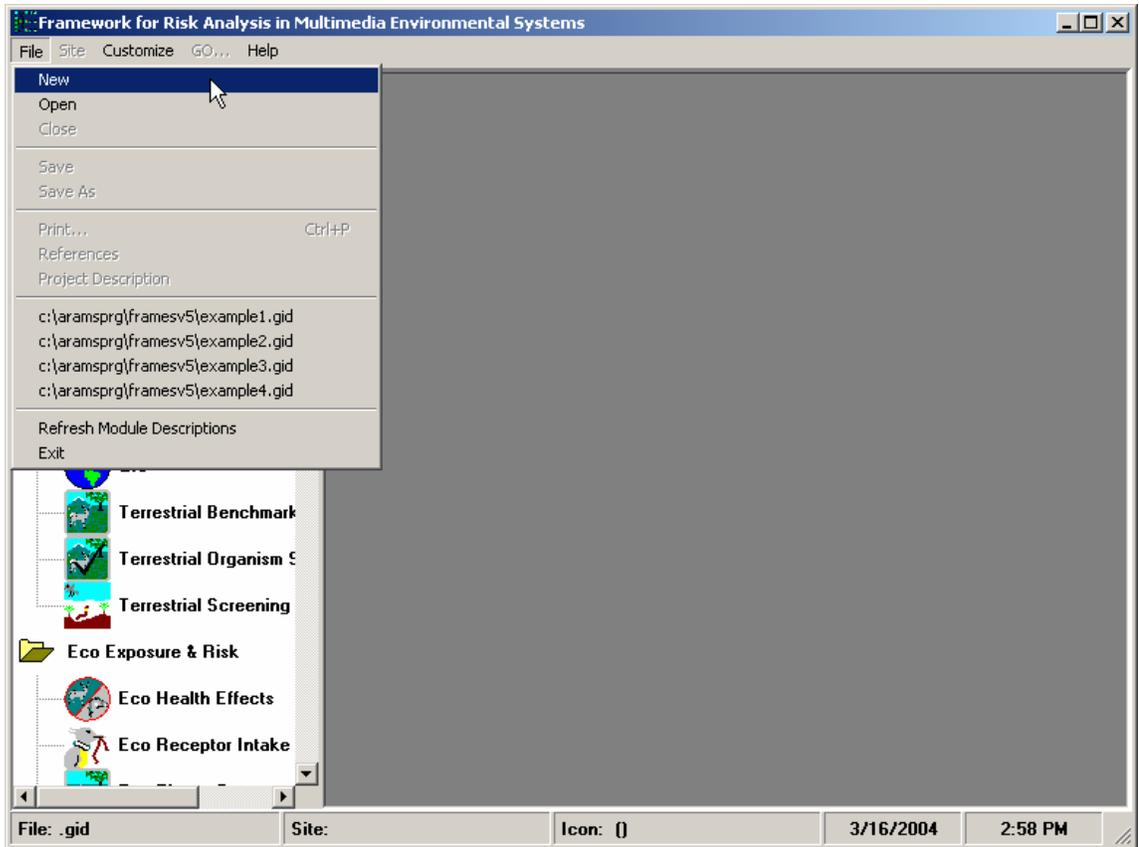
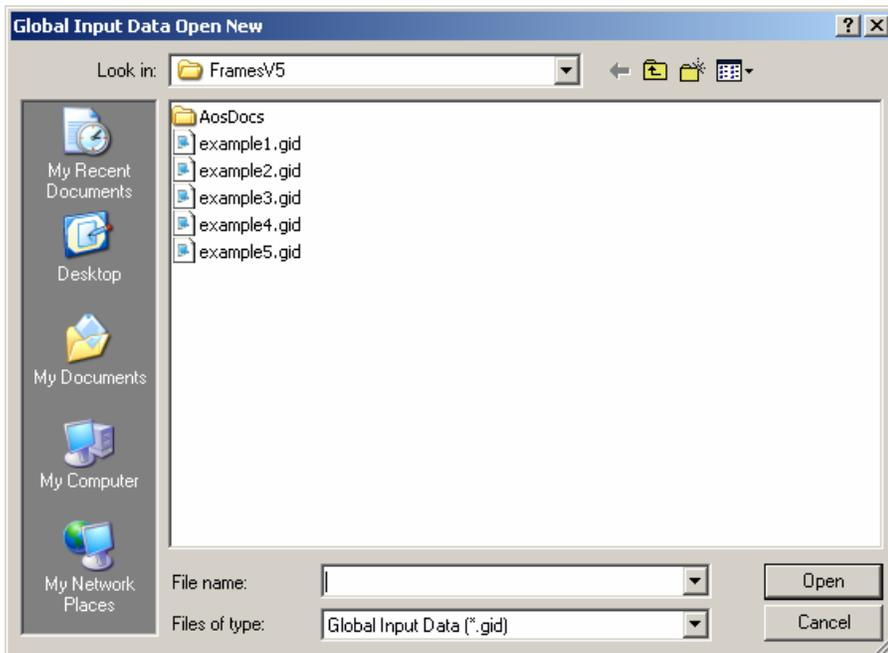
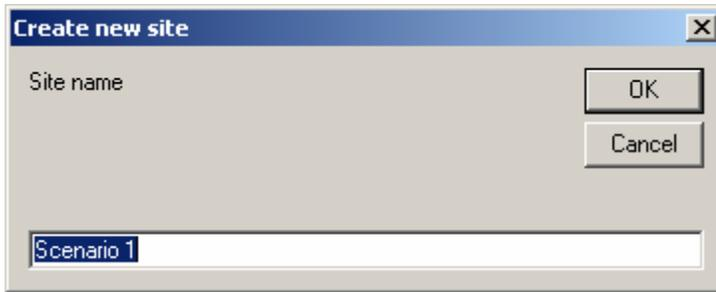

Figure 2. Opening a new file
Figure 3. Global Input Data Open New (new file window)
Figure 4. Create New Site screen (Input "Site name" box)
- While ARAMS/FRAMES is running, click “File” and choose “New” and a window titled “Global Input Data Open New” will appear (see Figure 2). In the “File Name” box, type the project name (type: “Sample4” maximum of eight characters) and click “Open” (see Figure 3). **Do not name the “new file” “Example4” because it will write over the existing “Example4” file that was distributed with the tutorial.** A window titled “Create New Site” will appear. Type the project site name (type: Scenario 1) and click “OK” (see Figure 4).